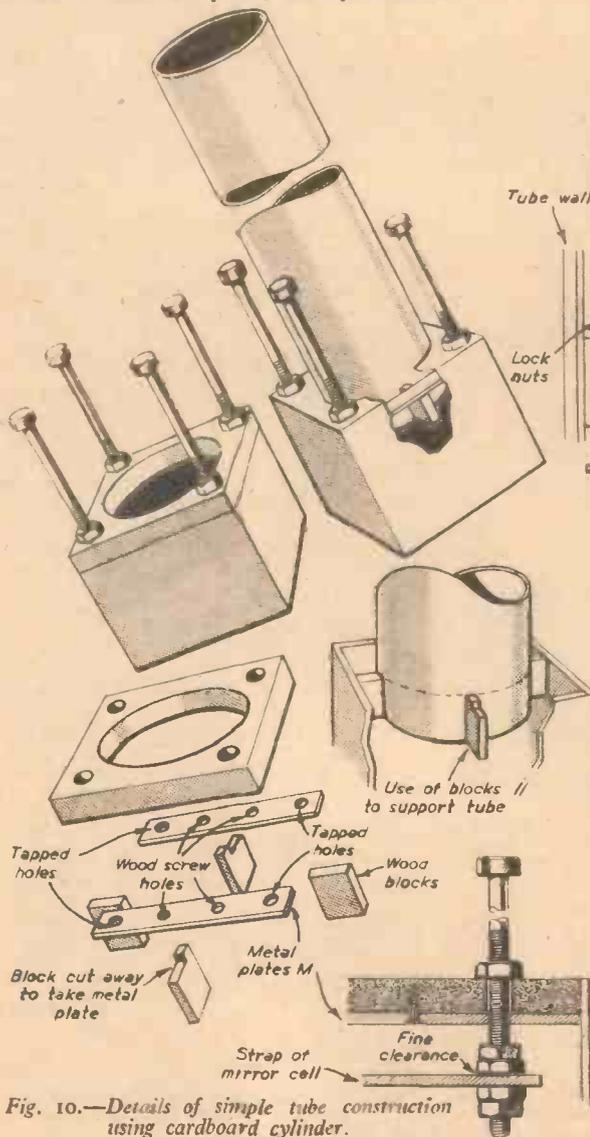

Fig. 10.—Details of simple tube construction using cardboard cylinder.
**C**ONSTRUCTION of the simple tube is shown in Fig. 10. In the case of the circular tube the writer favours a square end. In Fig. 12 the most simple fixing for the mirror cell is shown. In Figs 10 and 11, there is set out a refined fixing, which allows the mirror to be "squared on" when the operator's eye is at the eye tube. Both these arrangements once set and locked will give absolute satisfaction.
The refined fixing in Figs. 10 and 11 allows the observer to adjust the mirror while he has his eye at the eye tube of